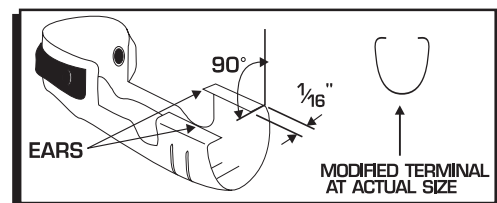

Figure 4 Preparing the Terminals.
3. Before crimping the terminals to the wires the terminals must be modified as shown in Figure 4. Bend the terminal ears over 90° by using a pair of regular needle nose or long nose pliers.